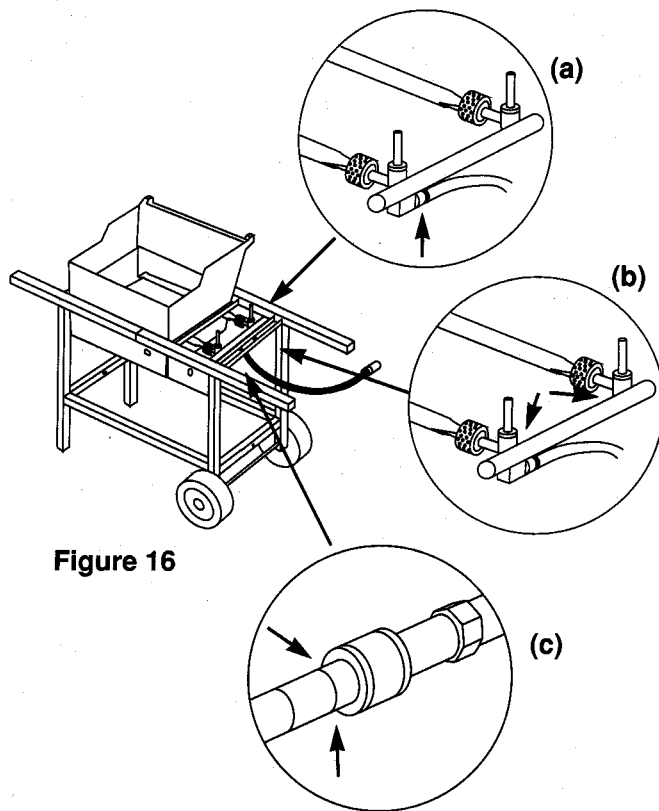

Figure 16
a) Hose to manifold connections. Figure 16 (a).
WARNING: If there is a leak at the hose to manifold connection, Figure 16 (a), retighten the hose fitting with a wrench and recheck for leaks with soap and water solution.
b) Valves to manifold connection. Figure 16 (b).
c) The hose to quick disconnect connection. Figure 16 (c).
WARNING: If there is a leak at the valves to manifold connection, Figure 16 (b), or quick disconnect connections, Figure 16 (c), turn OFF the gas. **DO NOT OPERATE THE BARBECUE.** Contact your dealer.